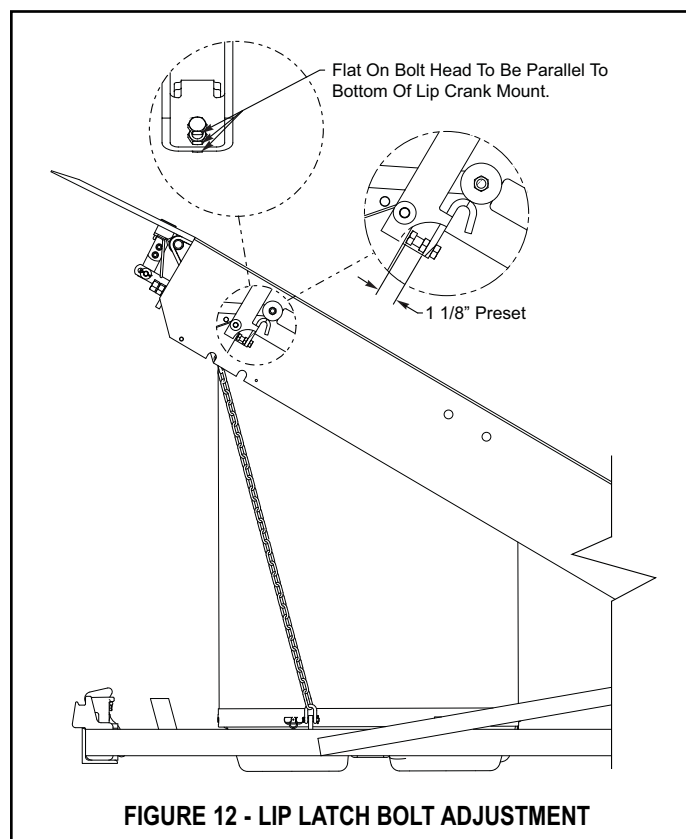

FIGURE 12 - LIP LATCH BOLT ADJUSTMENT
1. Loosen the jam nuts on the lip latch bolt. See figure 12.
2. Turn the bolt clockwise one full turn at a time. See figure 12.